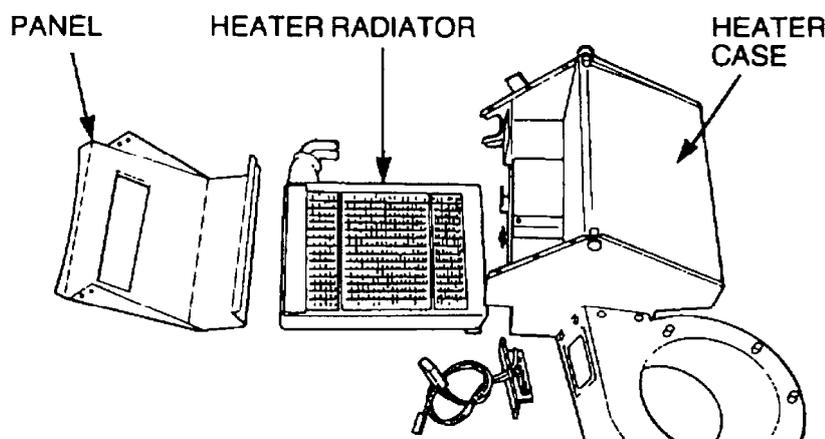

Figure 110 Heater Assembly Exploded View
- c. Remove the panel and heater radiator (Figure 110).